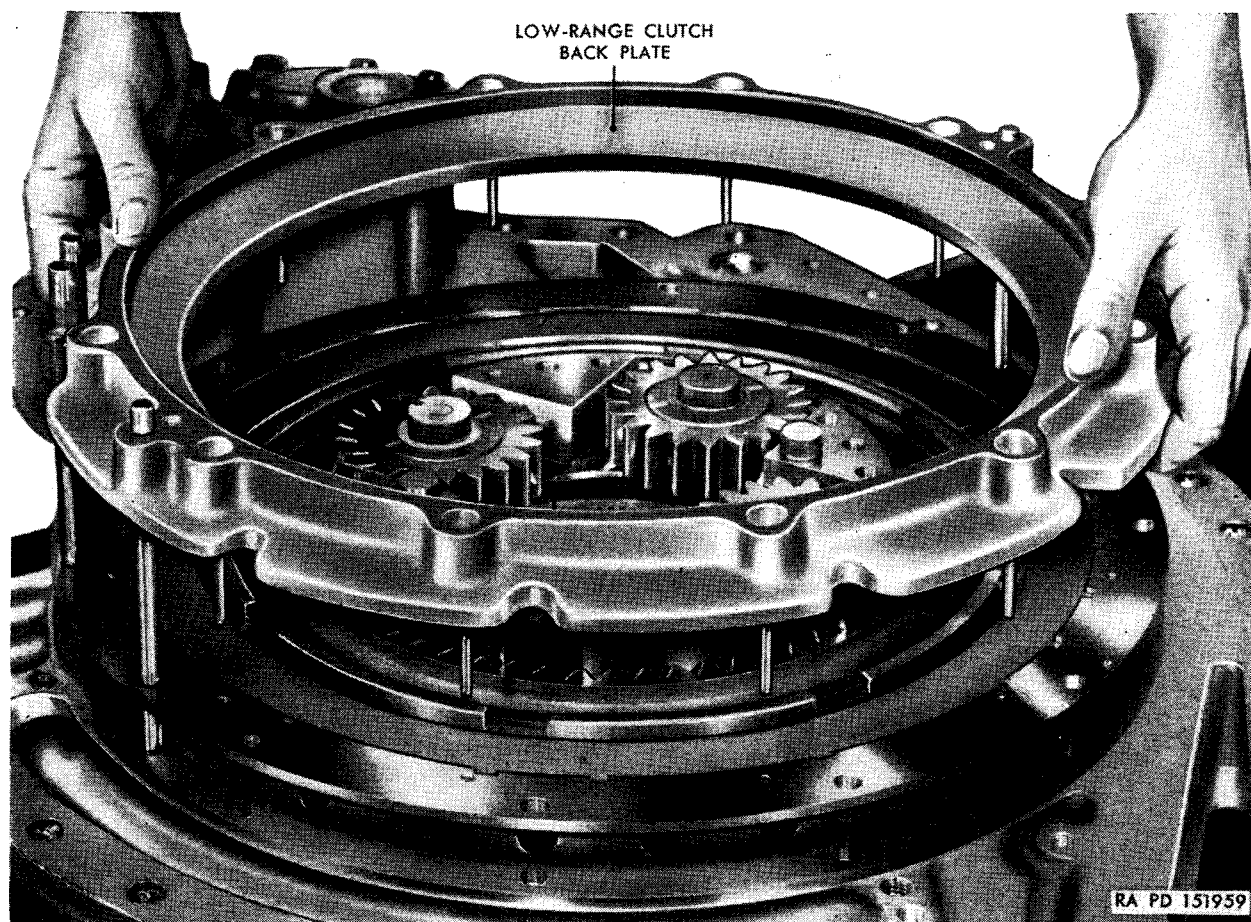

Figure 220. Installing low-range-clutch back plate.
- (1) Install the low-range-clutch back plate (fig. 220).
- (2) Install the reverse-range ring gear on the low-range planet-carrier dowels, seating